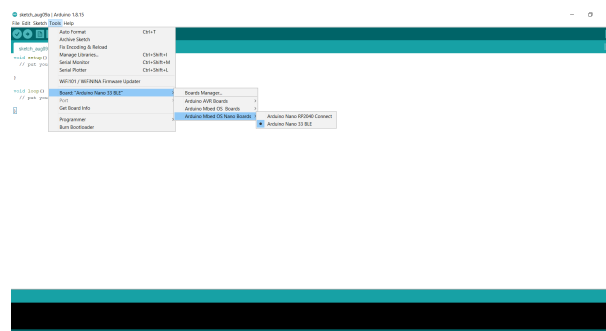

Figure 3.2.: Select the Connected board - here Arduino Nano 33 BLE Sense
3. Navigate to the menu **Tools**, select **Board**, and choose the connected board, which is the **Arduino Nano 33 BLE Sense**, as shown in Figure 3.2.